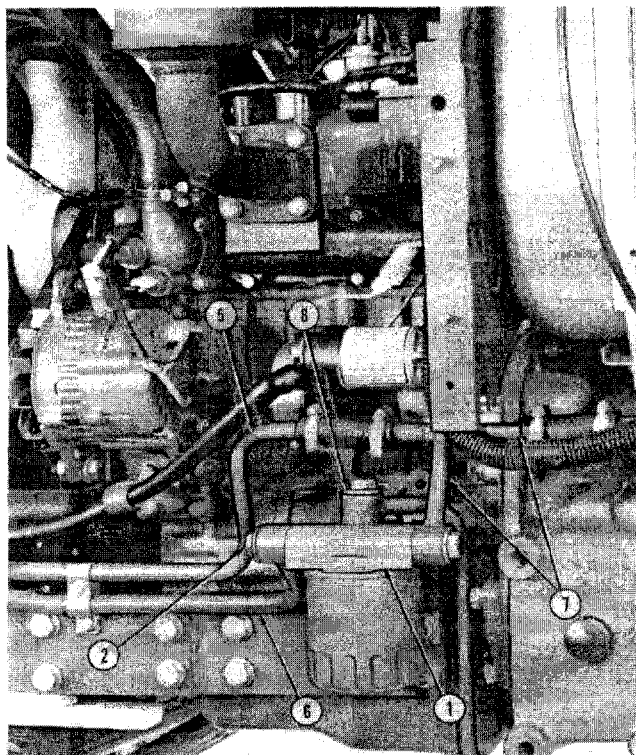

Figure 76
Reference — Figure 76
A check valve located in the HST filter manifold, Figure 76, protects the cooler from excess pressure due to high oil viscosity or a restriction in the cooler circuit.
1. Remove the banjo bolt (2), Figure 76, from the cooler return to manifold tube and remove the spring (3) and ball (4) from the manifold.
Assemble the check valve components as shown in Figure 76.